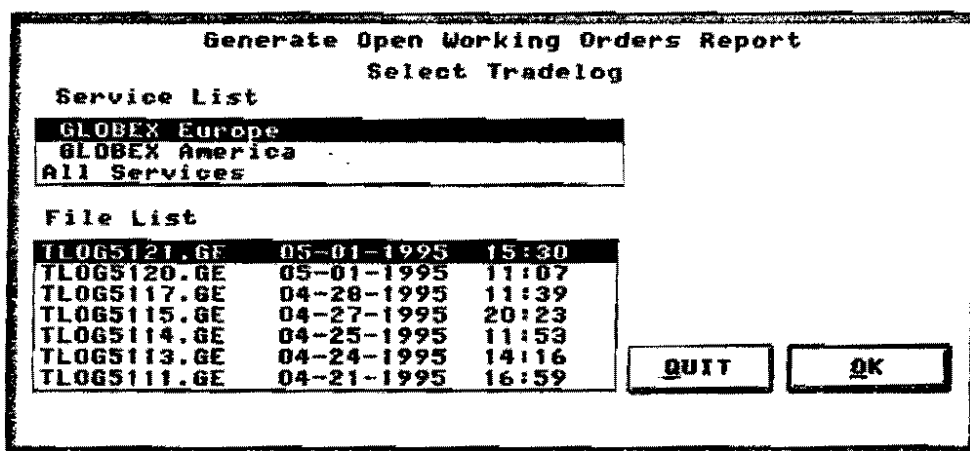

Figure 12.20 Generate Open Working Orders Report Dialog Box
1. Select **Open Working Orders** in the Reports menu to display the dialog box shown in Figure 12.20. The highest priority Service is selected, as is the most recent of up to seven tradelog files displayed in the list. (Tradelog file-names are explained in Section 12.4.2.)